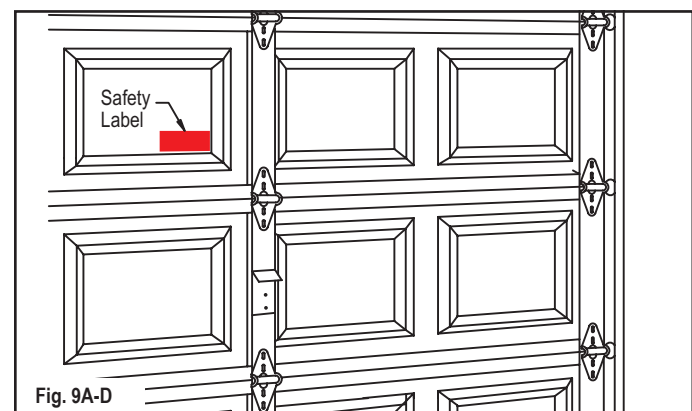

Fig. 9A-D
NOTE: If door has more than 1 strut, consult Table 7-A or 7-C. Attach using 1/4" x 3/4" self-tapping screws (Fig. 9A-E). When predrilled holes do not line up with hinge, drill (2) 3/16" pilot holes through strut, hinge and door at each location or use impact wrench with 7/16" socket and self-tapping screws.